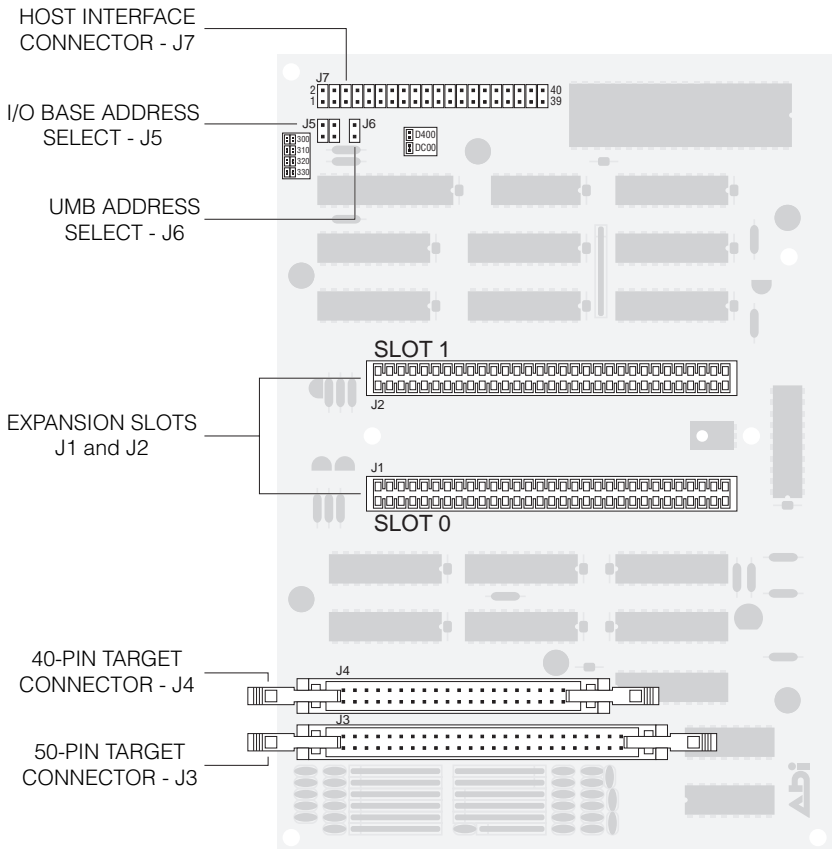
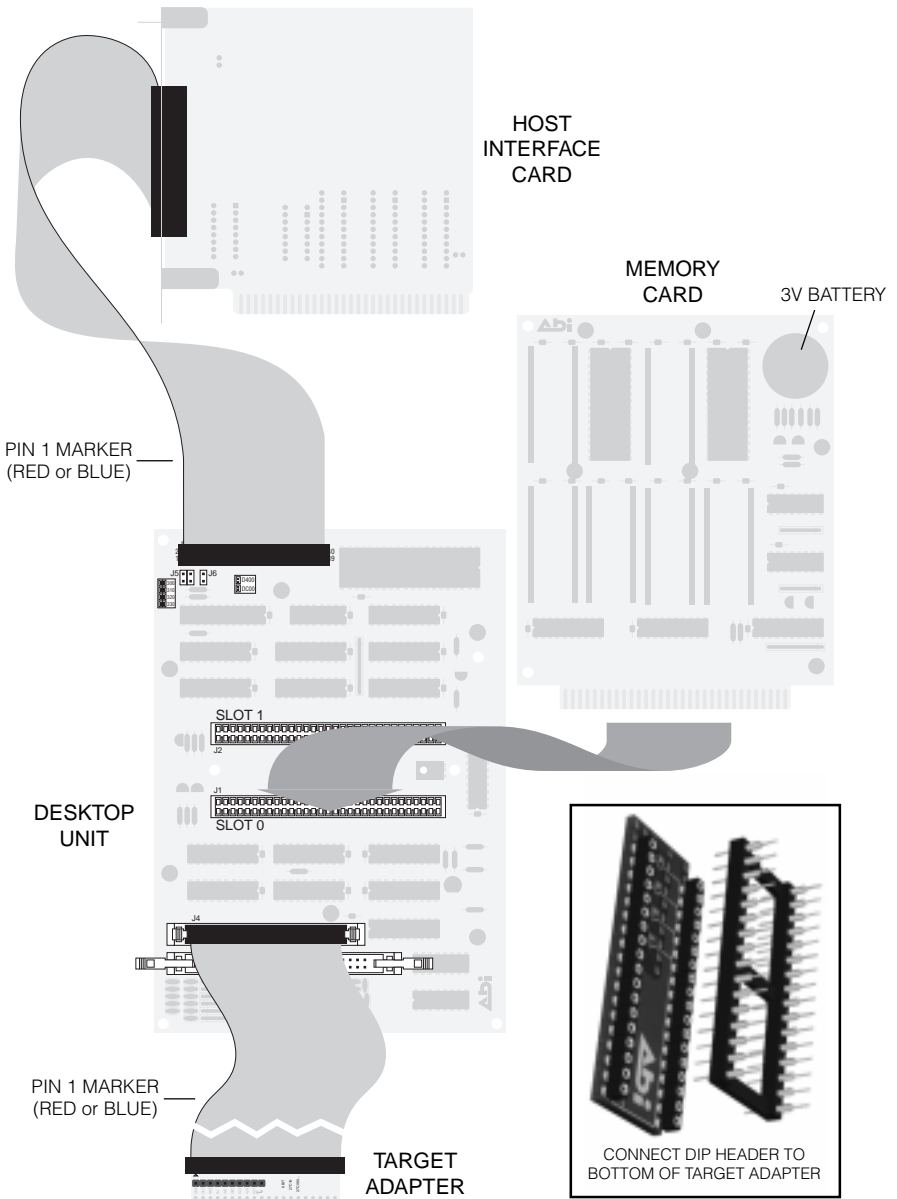

FIGURE 2-1. DESKTOP UNIT CONNECTOR LOCATIONS
FIGURE 2-2. CABLE CONNECTIONS
Refer to Fig. 2-1 and Fig. 2-2 during installation.
6. Connect the 40-pin ribbon cable to the Host Interface Connector on the Desktop Unit Desktop Unit (J7 in Fig. 2-1). Pin 1 is marked red or blue strip on the ribbon cable.
8. Insert the Memory Card into Expansion SLOT 0 (J1 in Fig. 2-1) with the front facing the Target Connectors J3 and J4. The front side of the Memory Card is the side with the 3V lithium battery.
9. Connect the appropriate Target Adapter to the Target Connector (J3 or J4 in Fig. 2-1) on the Desktop Unit with the corresponding ribbon cable. See Appendix B for information on Target Adapters pinouts.